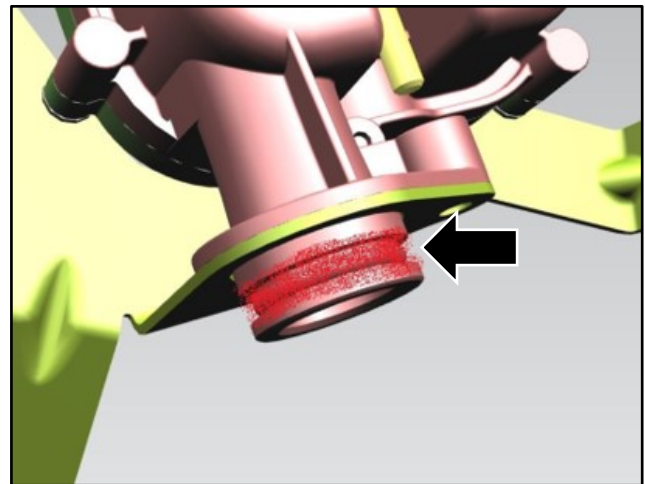

Figure 9
10. Apply black Hylomar jointing compound to the O-ring on the sound regulator (refer to Figure 9).